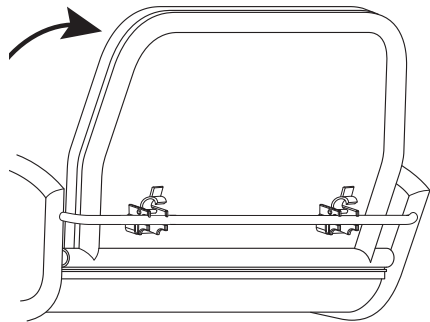

Fig. 4
1. Lift the backrest up until the two black safety clips engage with the crossbar on the back. (Fig. 4)